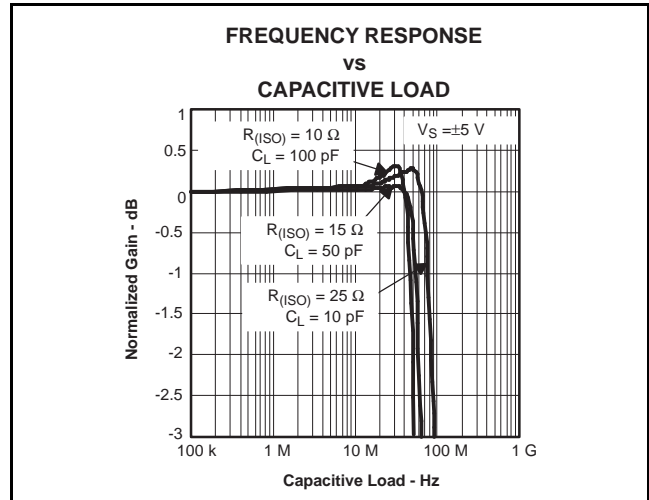

Figure 88. Isolation Resistor Diagram
4. **Connections to other wideband devices on the board may be made with short direct traces or through onboard transmission lines.** For short connections, consider the trace and the input to the next device as a lumped capacitive load. Relatively wide traces (50 mils to 100 mils) should be used, preferably with ground and power planes opened up around them. Estimate the total capacitive load and set  $R_{ISO}$  from the plot of recommended  $R_{ISO}$  vs capacitive load (See Figure 88). Low parasitic capacitive loads (< 4 pF) may not need an  $R_{ISO}$ , since the THS4211 is nominally compensated to operate with a 2-pF parasitic load. Higher parasitic capacitive loads without an  $R_{ISO}$  are allowed as the signal gain increases (increasing the unloaded phase margin). If a long trace is required, and the 6-dB signal loss intrinsic to a doubly-terminated transmission line is acceptable, implement a matched impedance transmission line using microstrip or stripline techniques (consult an ECL design handbook for microstrip and stripline
layout techniques). A 50-Ω environment is normally not necessary onboard, and in fact a higher impedance environment improves distortion as shown in the distortion versus load plots. With a characteristic board trace impedance defined on the basis of board material and trace dimensions, a matching series resistor into the trace from the output of the THS4211 is used as well as a terminating shunt resistor at the input of the destination device. Remember also that the terminating impedance is the parallel combination of the shunt resistor and the input impedance of the destination device: this total effective impedance should be set to match the trace impedance. If the 6-dB attenuation of a doubly-terminated transmission line is unacceptable, a long trace can be series-terminated at the source end only. Treat the trace as a capacitive load in this case and set the series resistor value as shown in the plot of  $R_{ISO}$  vs capacitive load (See Figure 88). This setting does not preserve signal integrity or a doubly-terminated line. If the input impedance of the destination device is low, there is some signal attenuation due to the voltage divider formed by the series output into the terminating impedance.